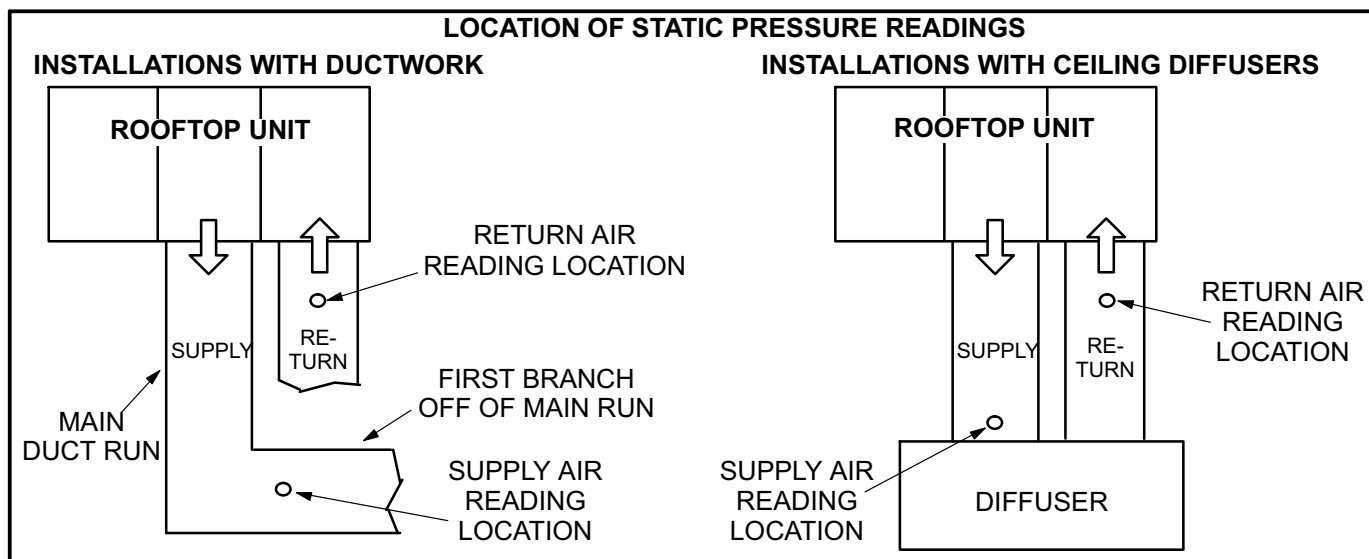

FIGURE 18
- 2- With all access panels in place, measure static pressure external to unit (from supply to return). Add any additional air resistance for options and accessories shown in accessory air resistance tables. Blower performance data is based on static pressure readings taken in locations shown in figure 18.
- 2- With all access panels in place, measure static pressure external to unit (from supply to return). Blower performance data is based on static pressure readings taken in locations shown in figure 18.